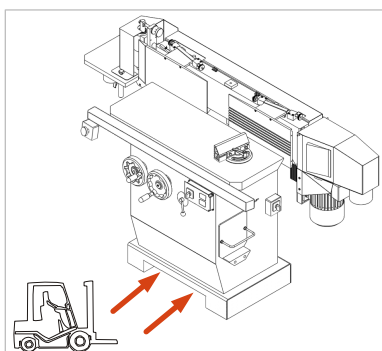

Figure 7: Setting down with forklift truck
- Lift the machine off the pallet with the forklift. Feed the forks of the forklift truck as shown in ⇒ Figure 7.